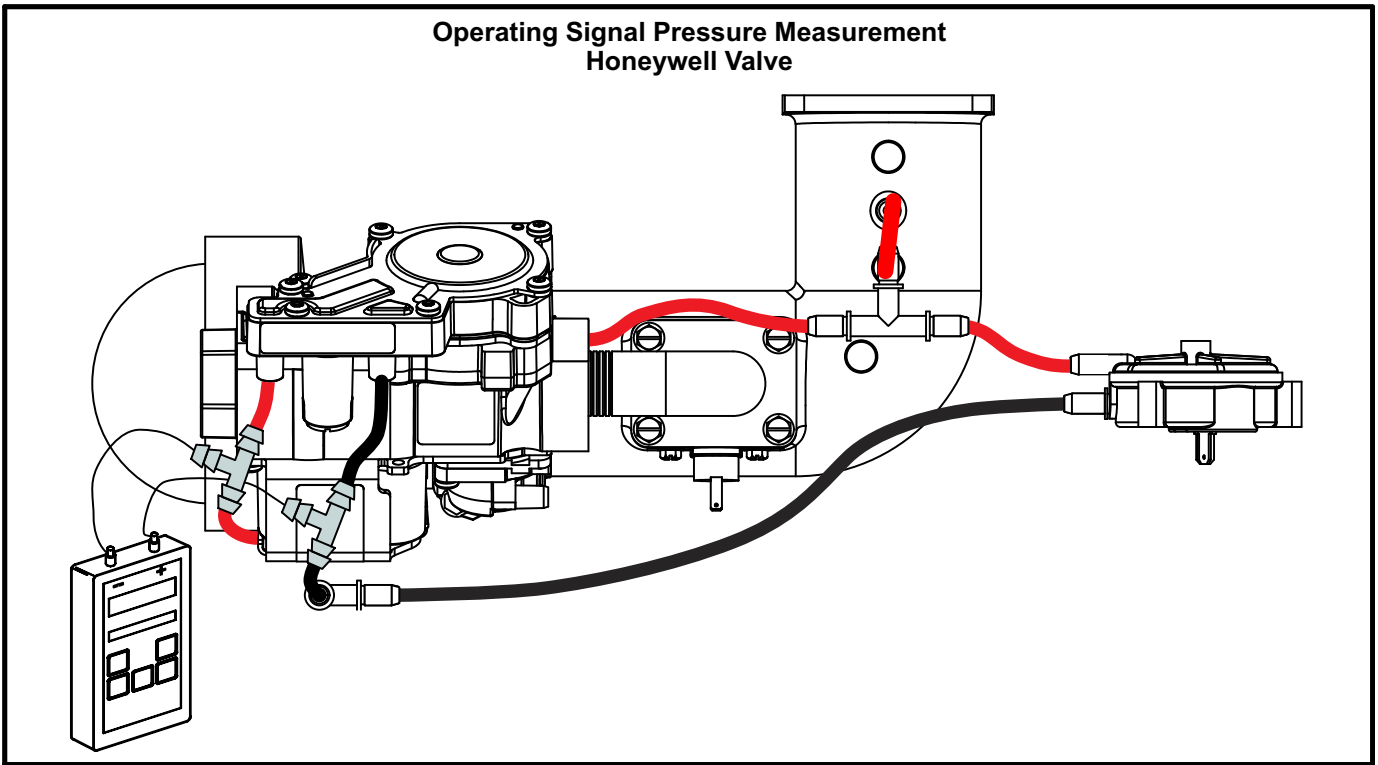

FIGURE 3
- 3 - Install hoses and meter as shown in figure 3 for signal pressure measurement.